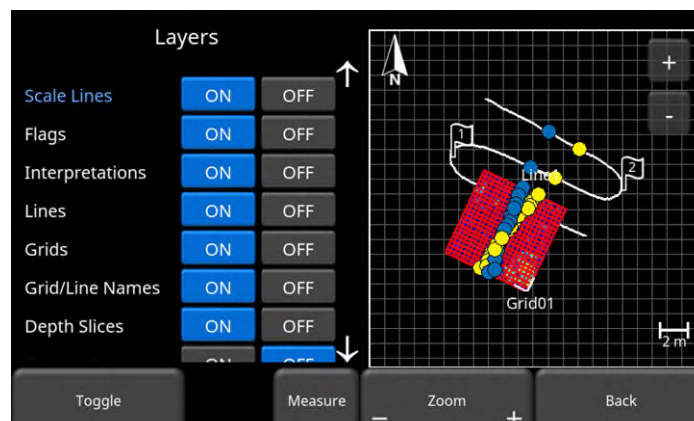

Figure 9-3: Setting layer options in MapView
- Pressing **Options** will display the screen shown in Figure 9-3 allowing you to customize the layer view. This is explained in the section below.
Pressing the **Options** button will allow you to customize what is shown in the MapView display. The screen will be split between the Layer options on the left and the MapView display on the right (Figure 9-3).
Press the **ON** or **OFF** button beside each option to show or hide that particular feature on the display on the right. Alternatively use the Up and Down arrows on the 4-way directional keypad to select the desired feature, then press the **Toggle** button on the bottom of the screen to turn that feature on or off. The image in Figure 9-3 shows them all turned ON.